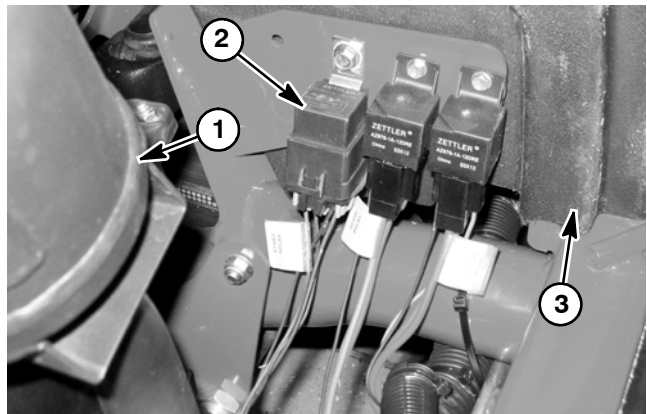

Figure 53
The start relay is used in the engine starting circuit. When energized by the TEC controller, the start relay provides a current path to energize the engine starter solenoid. The start relay has five (5) terminals and is attached to a frame bracket under the hood near the engine exhaust muffler (Fig. 53). Relays can be identified by a tag on the wire harness.